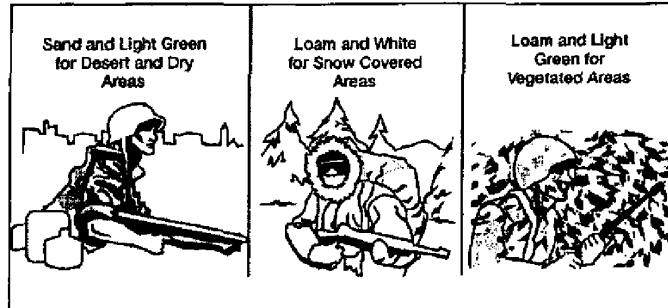

Figure 052-191-1361-1. Colors used in camouflage
d. Color. Blend individual camouflage with the surroundings, or at a minimum, ensure that objects do not contrast with the background (figure 052-191-1361-1).